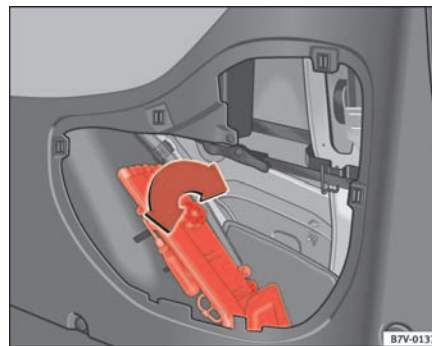

Fig. 152 Storage of vehicle tools
The vehicle tools are stored in the luggage compartment, behind the side cover on the right and are secured using a thumb screw ⇒ fig. 152 ①. The tool kit comprises the following items:
- ① Tool box ⁴⁴⁾
- ② Screwdriver with hexagon socket in the handle for slackened wheel bolts. The screwdriver blade is reversible. The screwdriver is in the wheel bolt.
- ③ Towing eye, removable
- ④ Open jaw spanner 10 x 13 mm
- ⑤ Wire hook ⁴⁴⁾ for pulling off the centre cover and the wheel bolt caps ▶